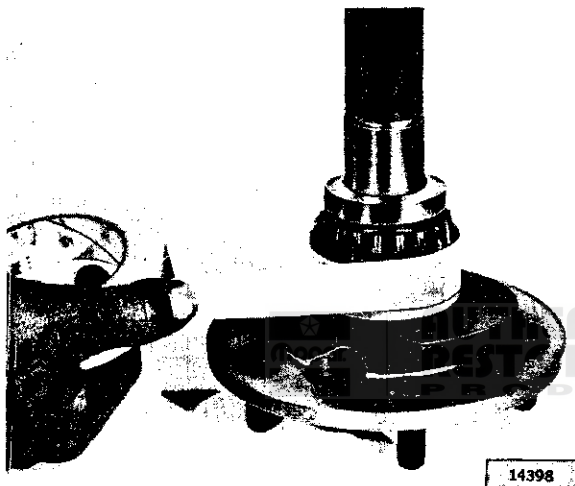

FIG. N-10—APPLYING TAPE TO BEARING AND SEAL
- c. After the cavity is full of grease, wrap tape completely around the rib ring and seal to enclose the cavity as shown in Fig. N-10.